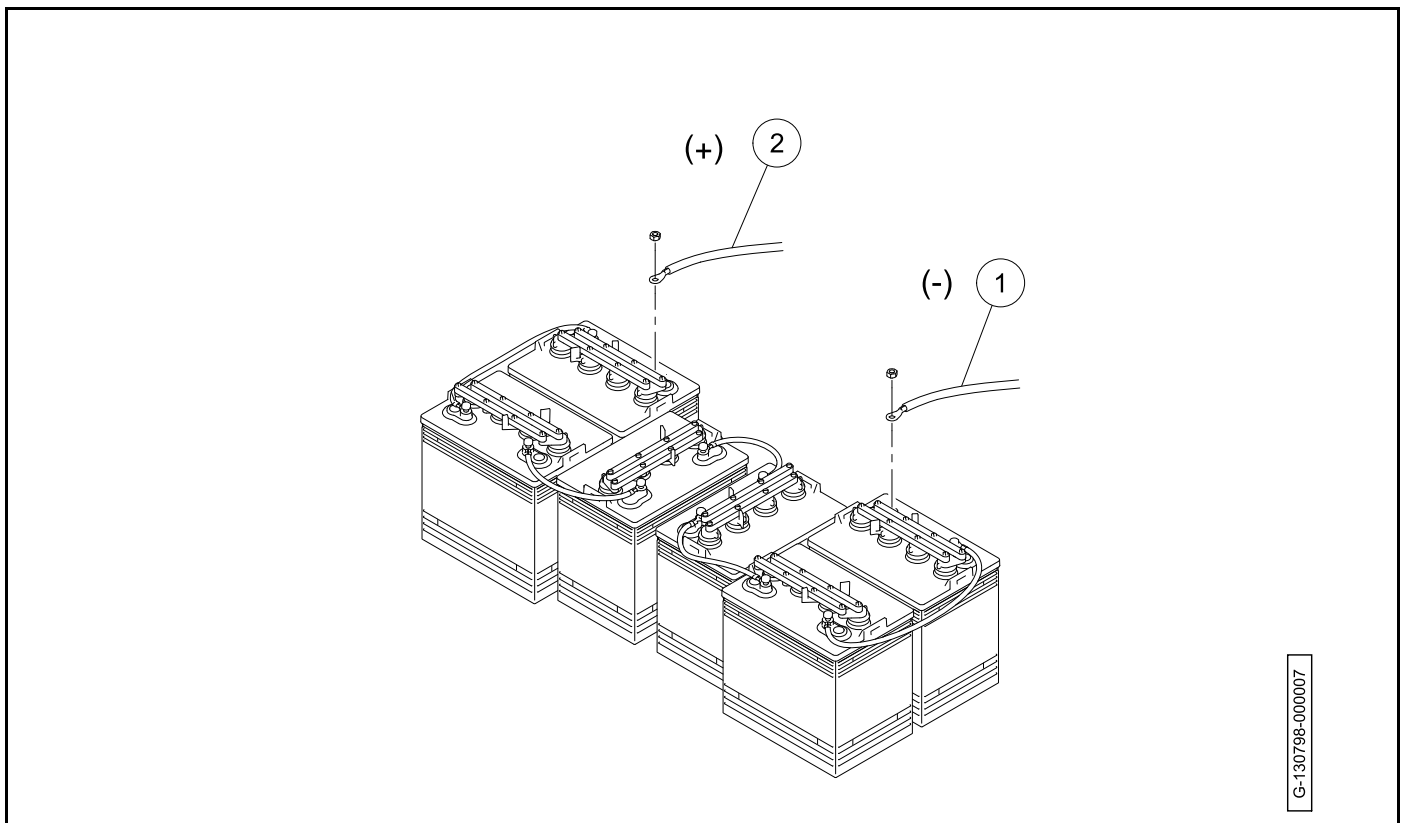

Figure 1-3 Connect Electric Vehicle Batteries
2. Connect the positive (+) cable (2) (Figure 1-3, Page 1-5).